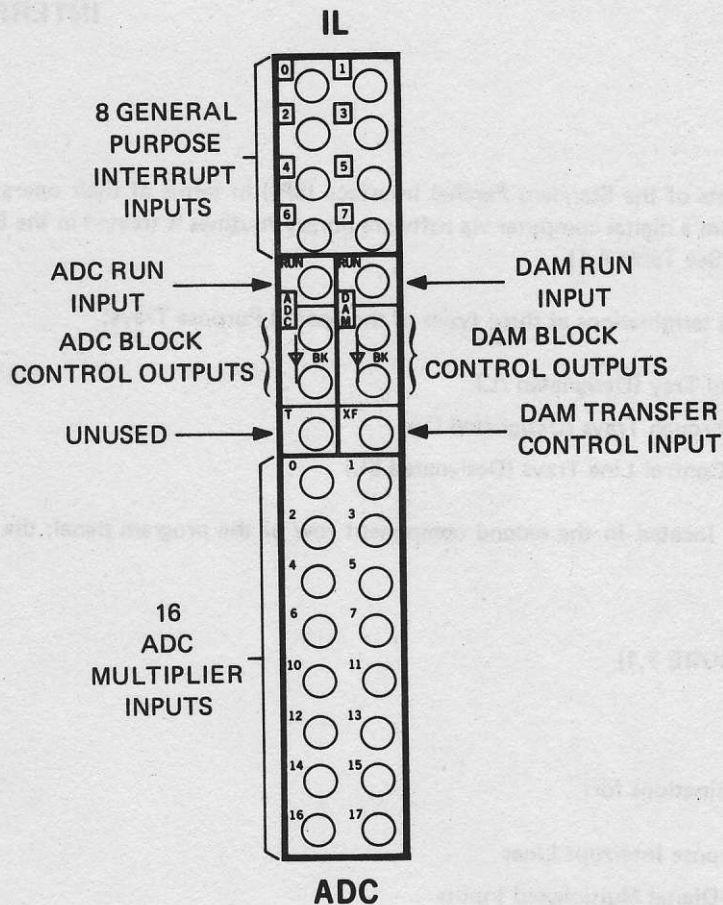

Figure 7.1 ADC/DAM Control and IL Tray: Program Panel Terminations
## 7.2 THE IL TRAY (FIGURE 7.1)
These 16 program panel terminations (Figure 7.1) are inputs to the multiplexer of an Analog-to-Digital Converter (ADC). The ADC analog inputs may be patched to any voltage in the range.
The ADC RUN termination (Figure 7.1) is a logic input that allows program panel control of the ADC conversion rate. When RUN is high it allows conversions to occur provided that the ADC controller has been set up with First and Last channel addresses. RUN is normally high if unpatched. There are two basic modes of operation using RUN – pulse mode and level mode.
A 1  $\mu$ sec pulse is generated at the ADC BK (Figure 7.1) termination whenever the last conversion in a block of conversions has been completed. A block may be any length from 1 to 16 channels, (0-178) inclusive.
**T Termination (Figure 7.1):**
There are 4 terminations on the ADC/Control tray (Figure 7.1) that are associated with the DAM system.